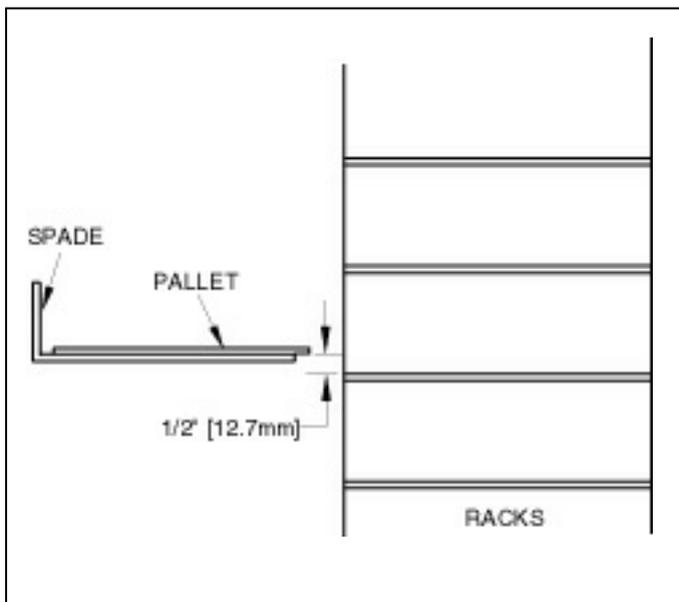

Figure 2.25 SWITCH LS-35 ADJUSTMENT.
2.2.5.6 Manually move the spade (see section 6.2) until it reaches the rack but does not enter. Then move spade up and down until top of spade is 1/2" [12.7mm] below bottom of pallet (see figure 2.25). Then move cam until switch LS-35 is actuated (screen will indicate that switch has been tripped).